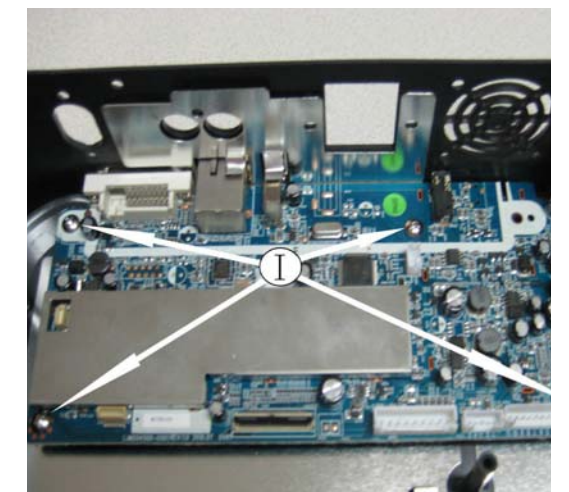

Figure 9
- 2) Loosen 4 screws "I" as shown in figure 9 to detach Net Main Board.